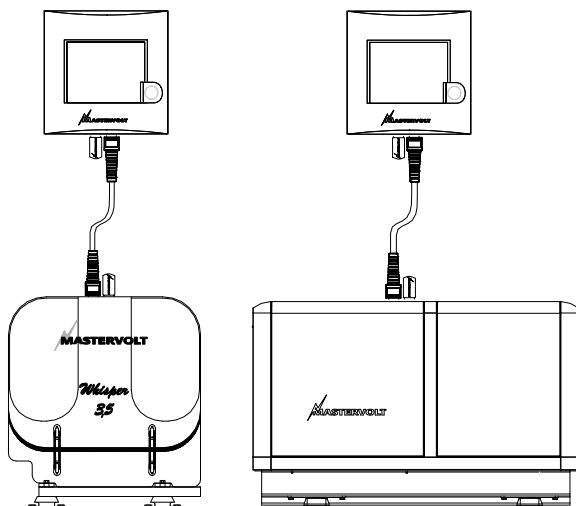

Figure 32:
- The easiest way is by setting up two independent *MasterBus* networks where each generator set is connected to its own *MasterView Easy* panel by its own *MasterBus* network. See figure 32. In this way no additional settings are required.